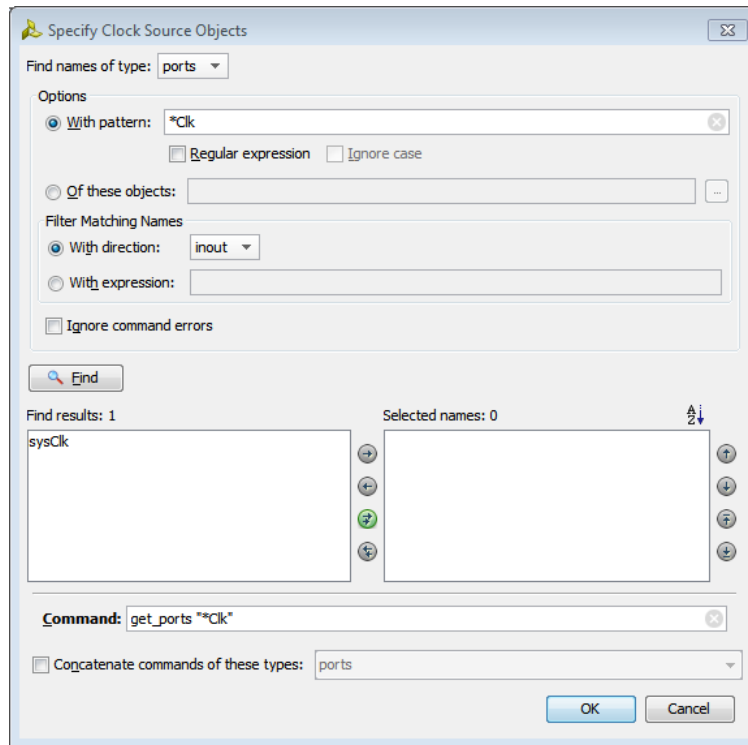

Figure 10: Specify Clock Sources
- For the Source Objects field select the browse button () to bring up the Specify Clock Sources Objects search window as shown in Figure 10: Specify Clock Sources.